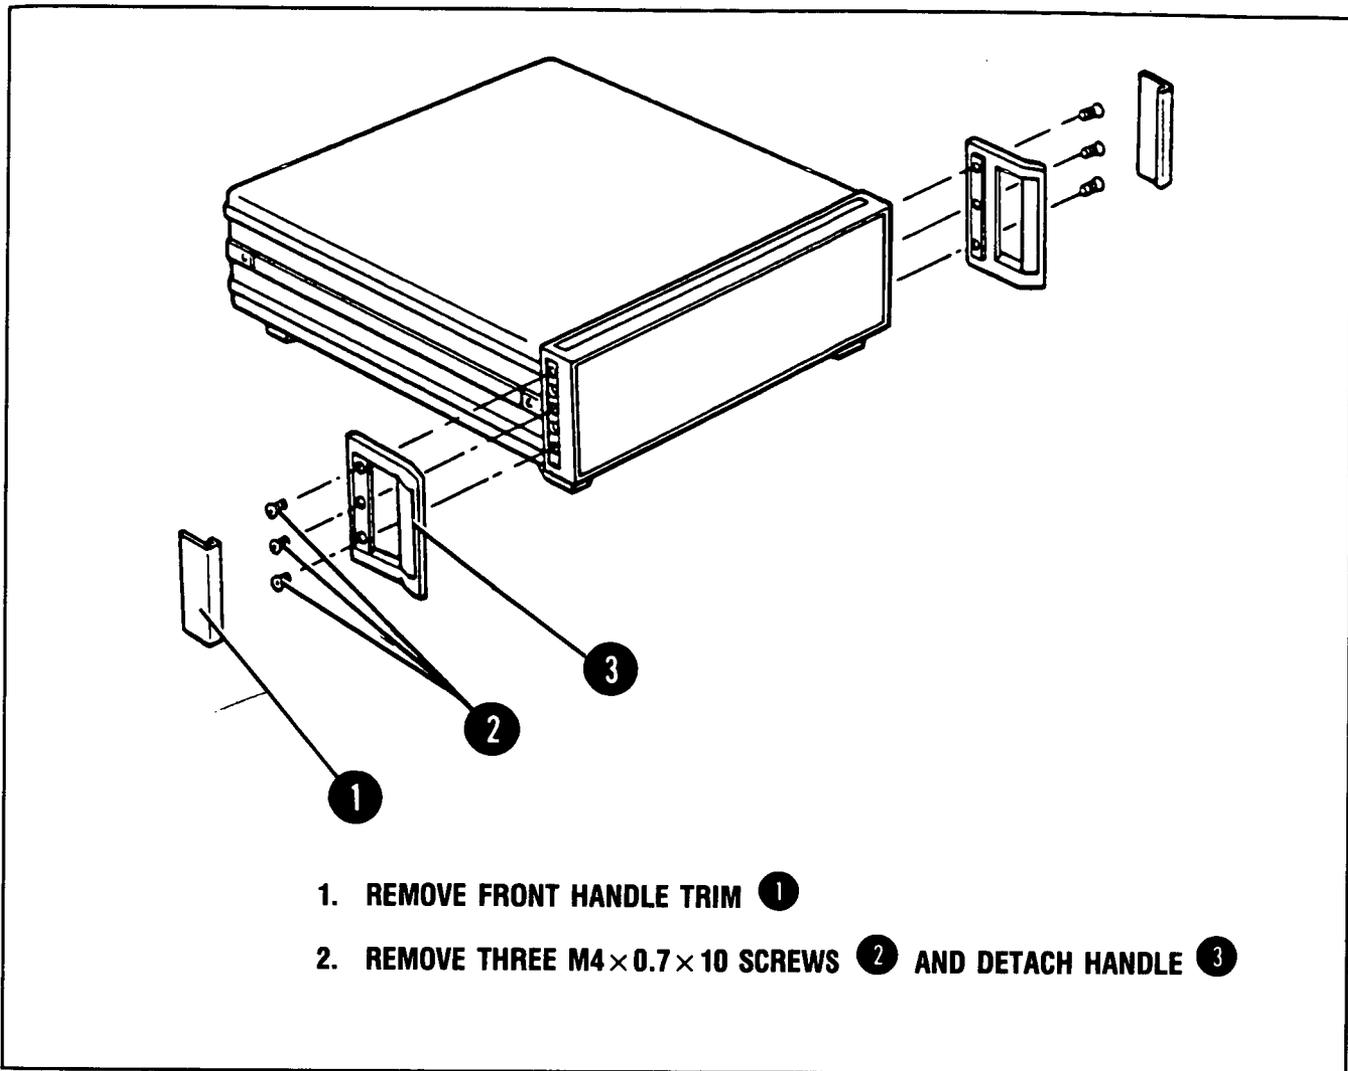

Figure 2-4. Removing Front Handles
2-27. To install some instrument options, the front handles need to be removed. See Figure 2-4 for instructions. When installing an option or replacing the handles, be sure that the correct size screw (as indicated in the illustrations) is used to prevent damage to the instrument.
- Remove the front handles on both instrument sections and replace with the 10½-inch handles and/or the 10½-inch rack mount brackets supplied with the kit. (Refer to Figures 2-4, 2-5 and 2-6.)